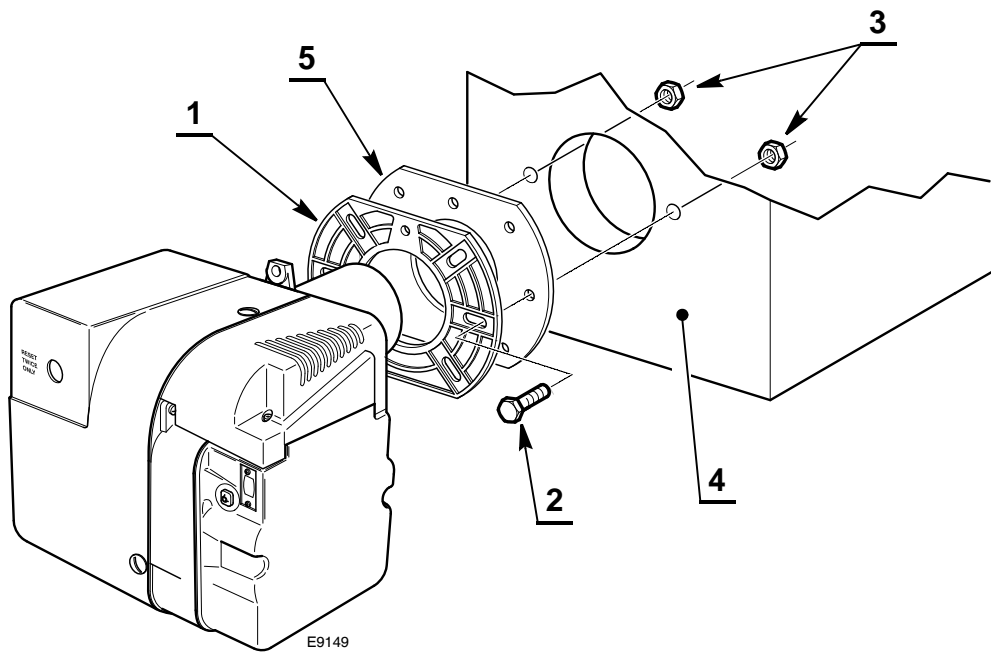

Fig. 7
- Fix the flange 1)(Fig. 7) to the boiler door 4) using screws 2) and (if necessary) the nuts 3) interposing the insulating gas-gasket 5).